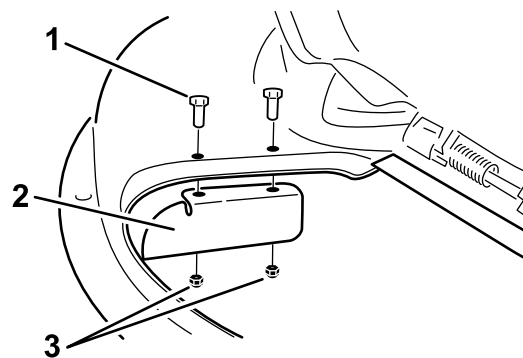

Figure 33
9. Install the cutoff baffle to the mower deck Figure 33. Use the two lock nuts (5/16 inch) to secure the baffle to the mower deck.
3. Remove the cutoff baffle from the mower deck (Figure 33).